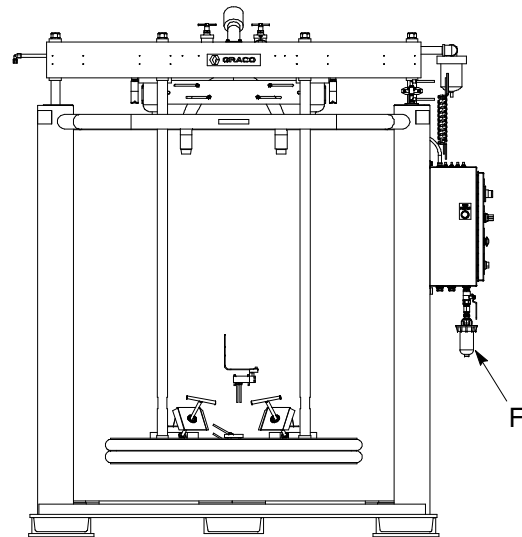

FIG. 15
The air filter is located between the air supply source and the Pneumatic Logic Panel (G). See FIG. 15.